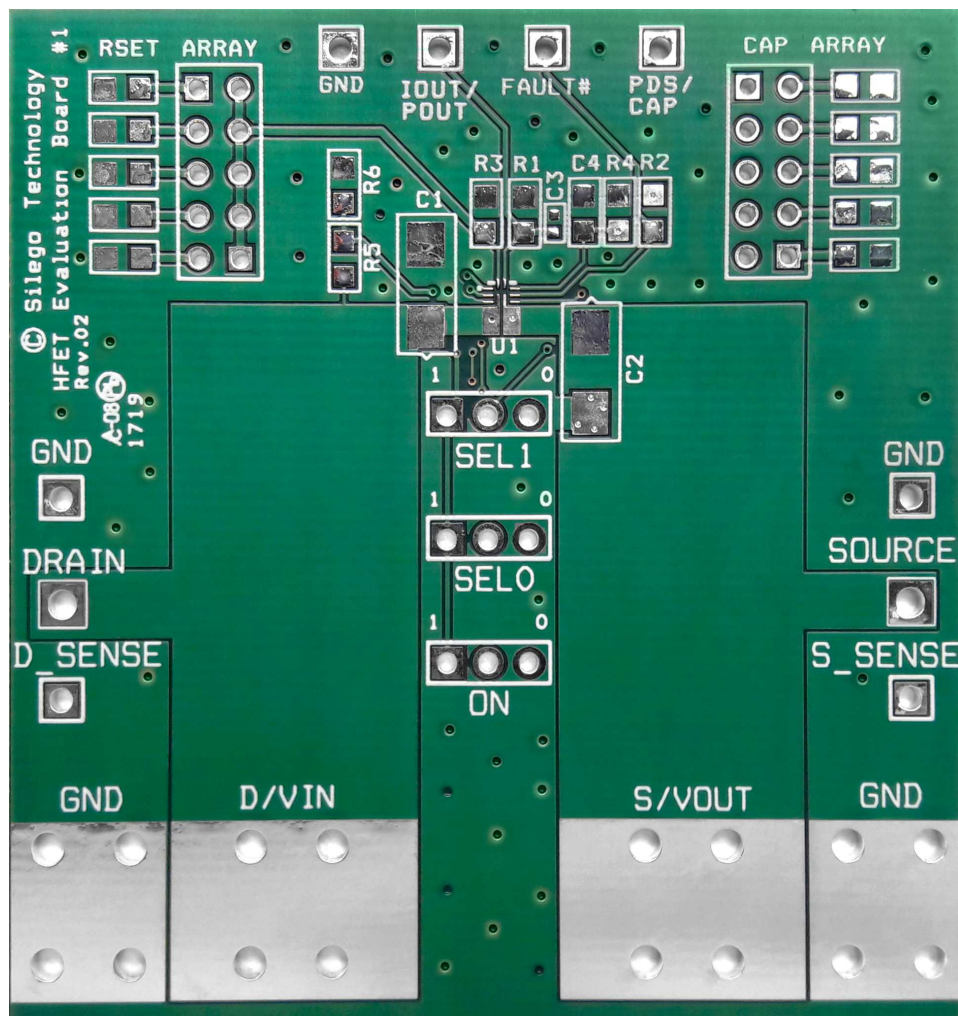

Figure 17. SLG59H1012V Evaluation Board
1. Since the VIN and VOUT pins dissipate most of the heat generated during high-load current operation, it is highly recommended to make power traces as short, direct, and wide as possible. A good practice is to make power traces with absolute minimum widths of 15 mils (0.381 mm) per Ampere. A representative layout, shown in Figure 17, illustrates proper techniques for heat to transfer as efficiently as possible out of the device;
A High Voltage GreenFET Evaluation Board for SLG59H1012V is designed according to the statements above and is illustrated on Figure 17. Please note that evaluation board has D_Sense and S_Sense pads. They cannot carry high currents and dedicated only for $R_{DS(ON)}$ evaluation.